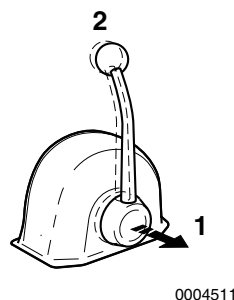

Figure 15
When the handle is pulled out (**Figure 15, (1)**), the engine speed can be controlled without engaging the marine gear. The marine gear remains in NEUTRAL, no load position. Turn the knob (**Figure 15, (2)**) counterclockwise to move the handle or clockwise to lock the handle.